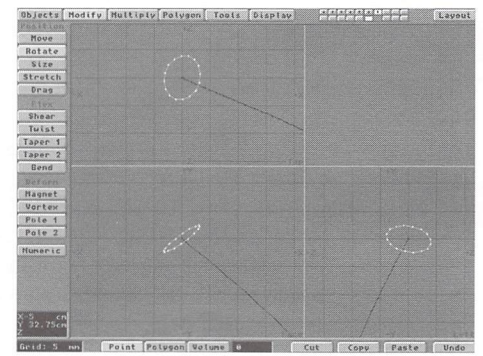

Figure 3
- In a new layer, with the "rail" in a background layer, create a 1-cm disc to use for the table leg. After moving the disc to the top of the curve, rotate it in all three views until it is perpendicular to the start of the curve (Figure 3).